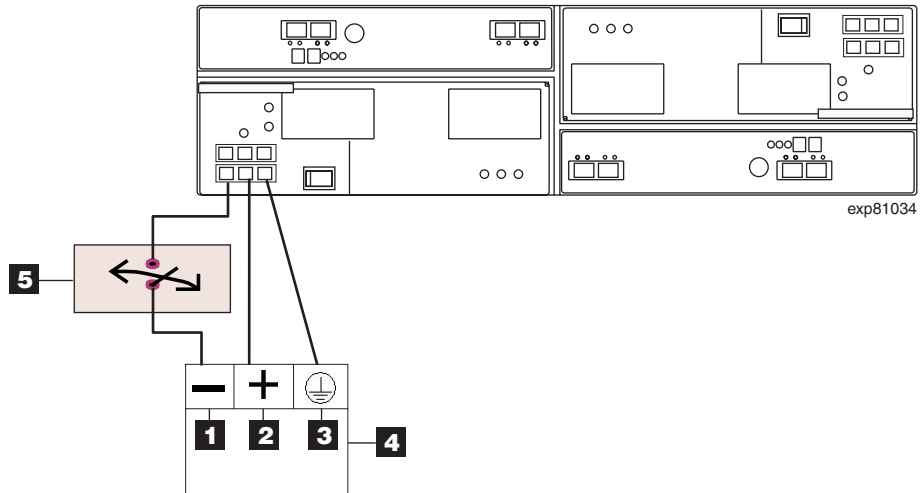

Figure 52. The dc wiring from EXP810 to disconnect device and dc power source
- Complete the wiring from the disconnect device to the terminal marked -48V of the Reliably grounded safety extra low voltage (SELV) dc power source. Connect the POS RTN and ground lines of the dc power cable to the terminals marked POS RTN and GND on the dc power source, as shown in Figure 52. For maximum protection against power loss, connect each of the two dc power supplies to a different power source.